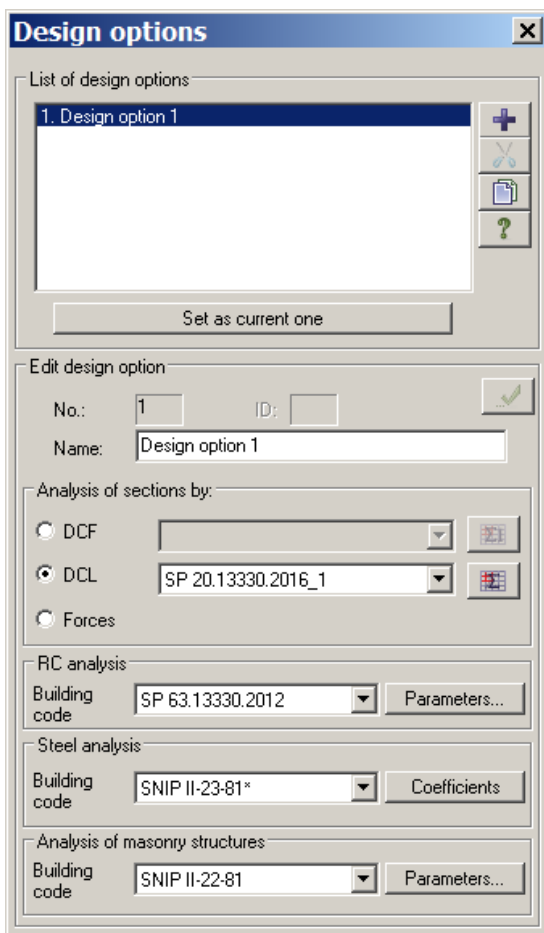

Figure 19.11 Design options dialog box
- ⇒ In the **Design options** dialog box (see Fig.19.11), define parameters for the first design option: